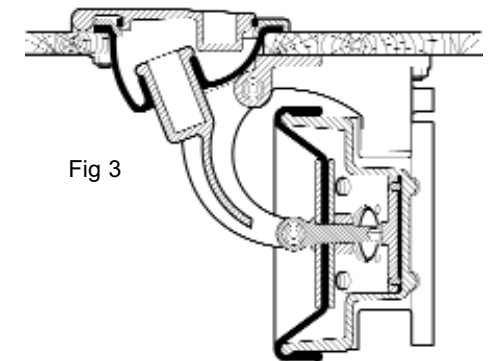

Fig 3
1. Using template mark off the 6 holes for the mounting and cut out the hole for the pump handle. Round off top edge of large hole as shown in fig. 3.